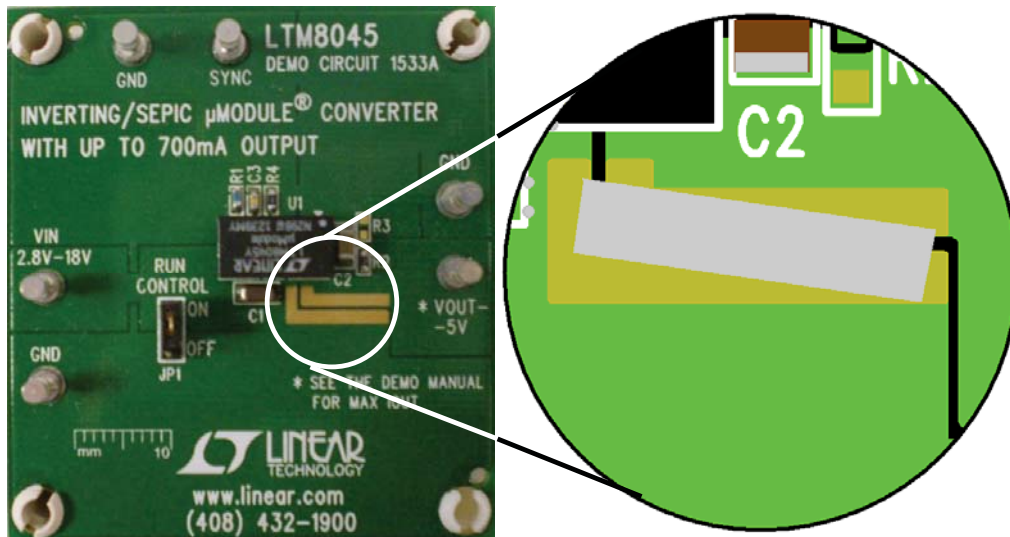

Figure 6
4. Solder the exposed copper together with braid to connect the terminal labeled V_{OUT-} to the ground plane, as shown in Figure 6. The terminal labeled V_{OUT-} is now GND.